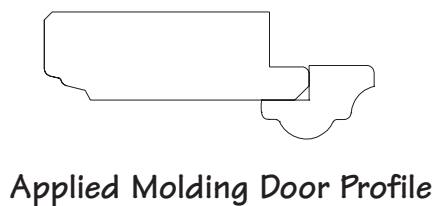

Figure 2
- 1/2" long Screws for Applied Molding Doors (bagged separately), see Figure 2
CAUTION: Do not use 1/2" long screws on White Thermo Foil Doors. The supplied 1/2" long screws (bagged separately) should only be used on Solid Wood door styles with Applied Molding (see Figure 2).